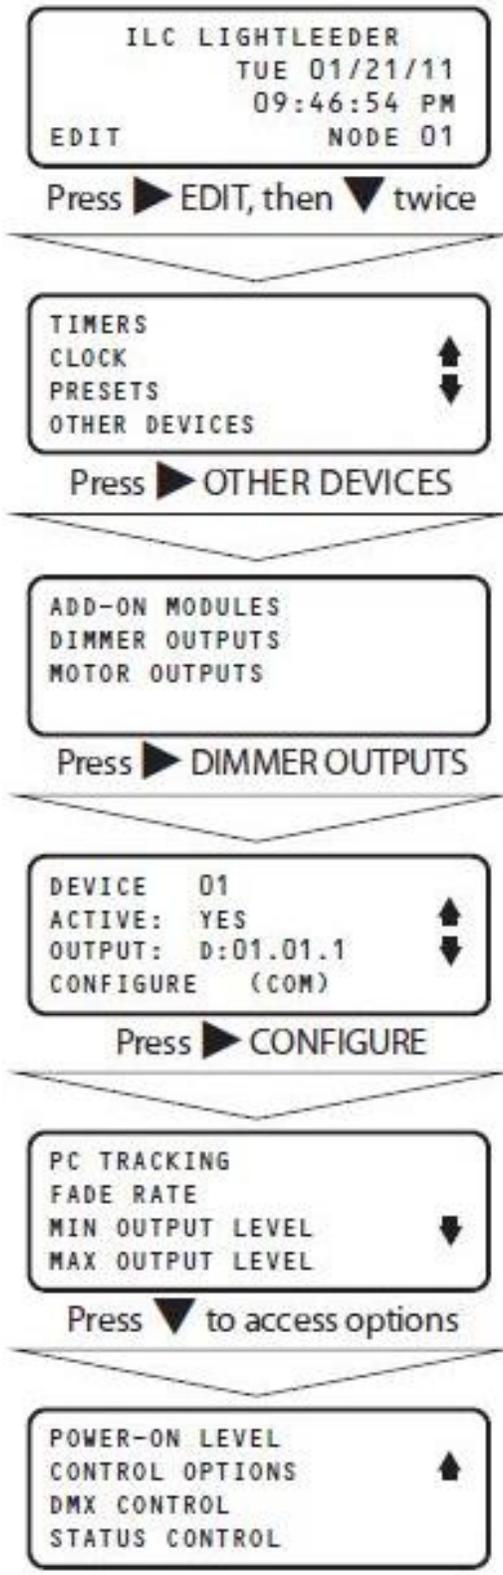

Figure 1 Programming Navigation
1. From the home screen as shown in figure 1, press ► EDIT (**Networked Panels connect through the Network Controller to the panel node**)